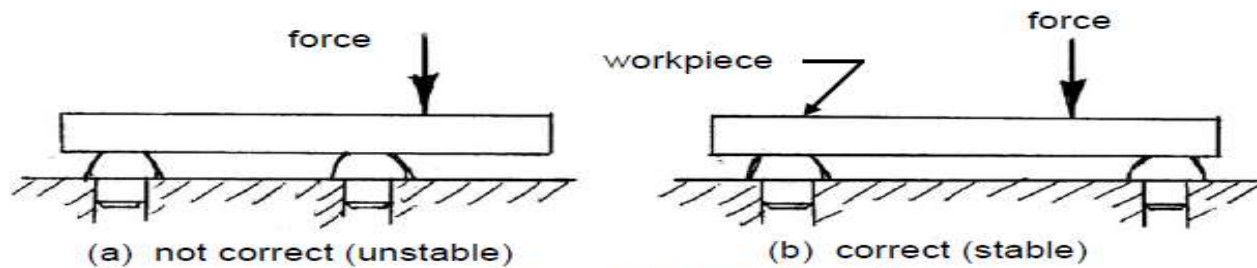

Fig. 8.1.13 Stability in supporting.
- ✓ supporting should keep the blank in stable condition under the forces as indicated in fig. 8.1.13 for supporting large flat area proper recess is to be provided, as indicated in fig. 8.1.14, for better and stable support.